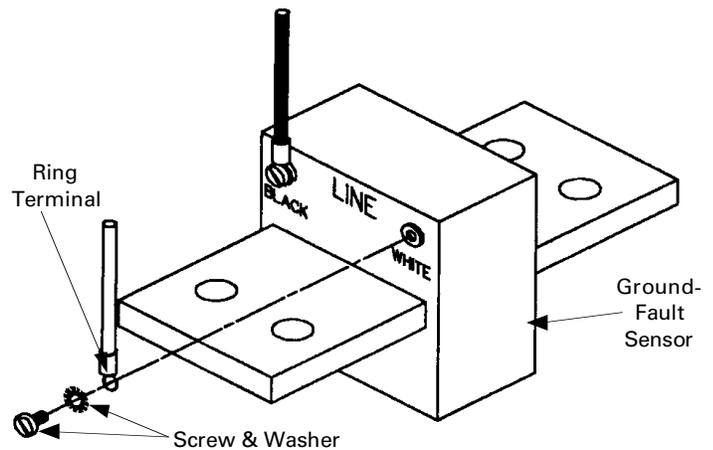

Figure 7. Attaching the wires to the ground-fault sensor.
8. Connect the black wire to the ground-fault sensor terminal labeled BLACK. Connect the white wire to the ground fault sensor terminal labeled WHITE. Secure the ring terminal with the star washer and pan head screw, as shown in Figure 7.